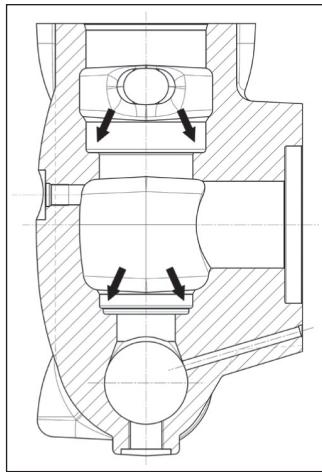

Fig. 98
Before repositioning the valve units, thoroughly clean and dry the relative housings on the head indicated by the arrows (pos. ①, Fig. 98).